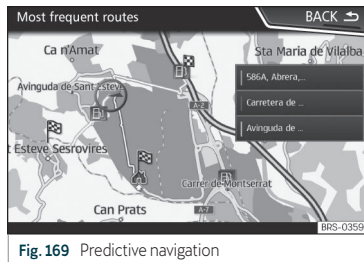

Fig. 169 Predictive navigation
- On the main screen of the Navigation menu, in the pop-up window, press the **FREQUENT ROUTES** button. To display frequently followed routes press the **Show on map** button >>> **Fig. 169**.